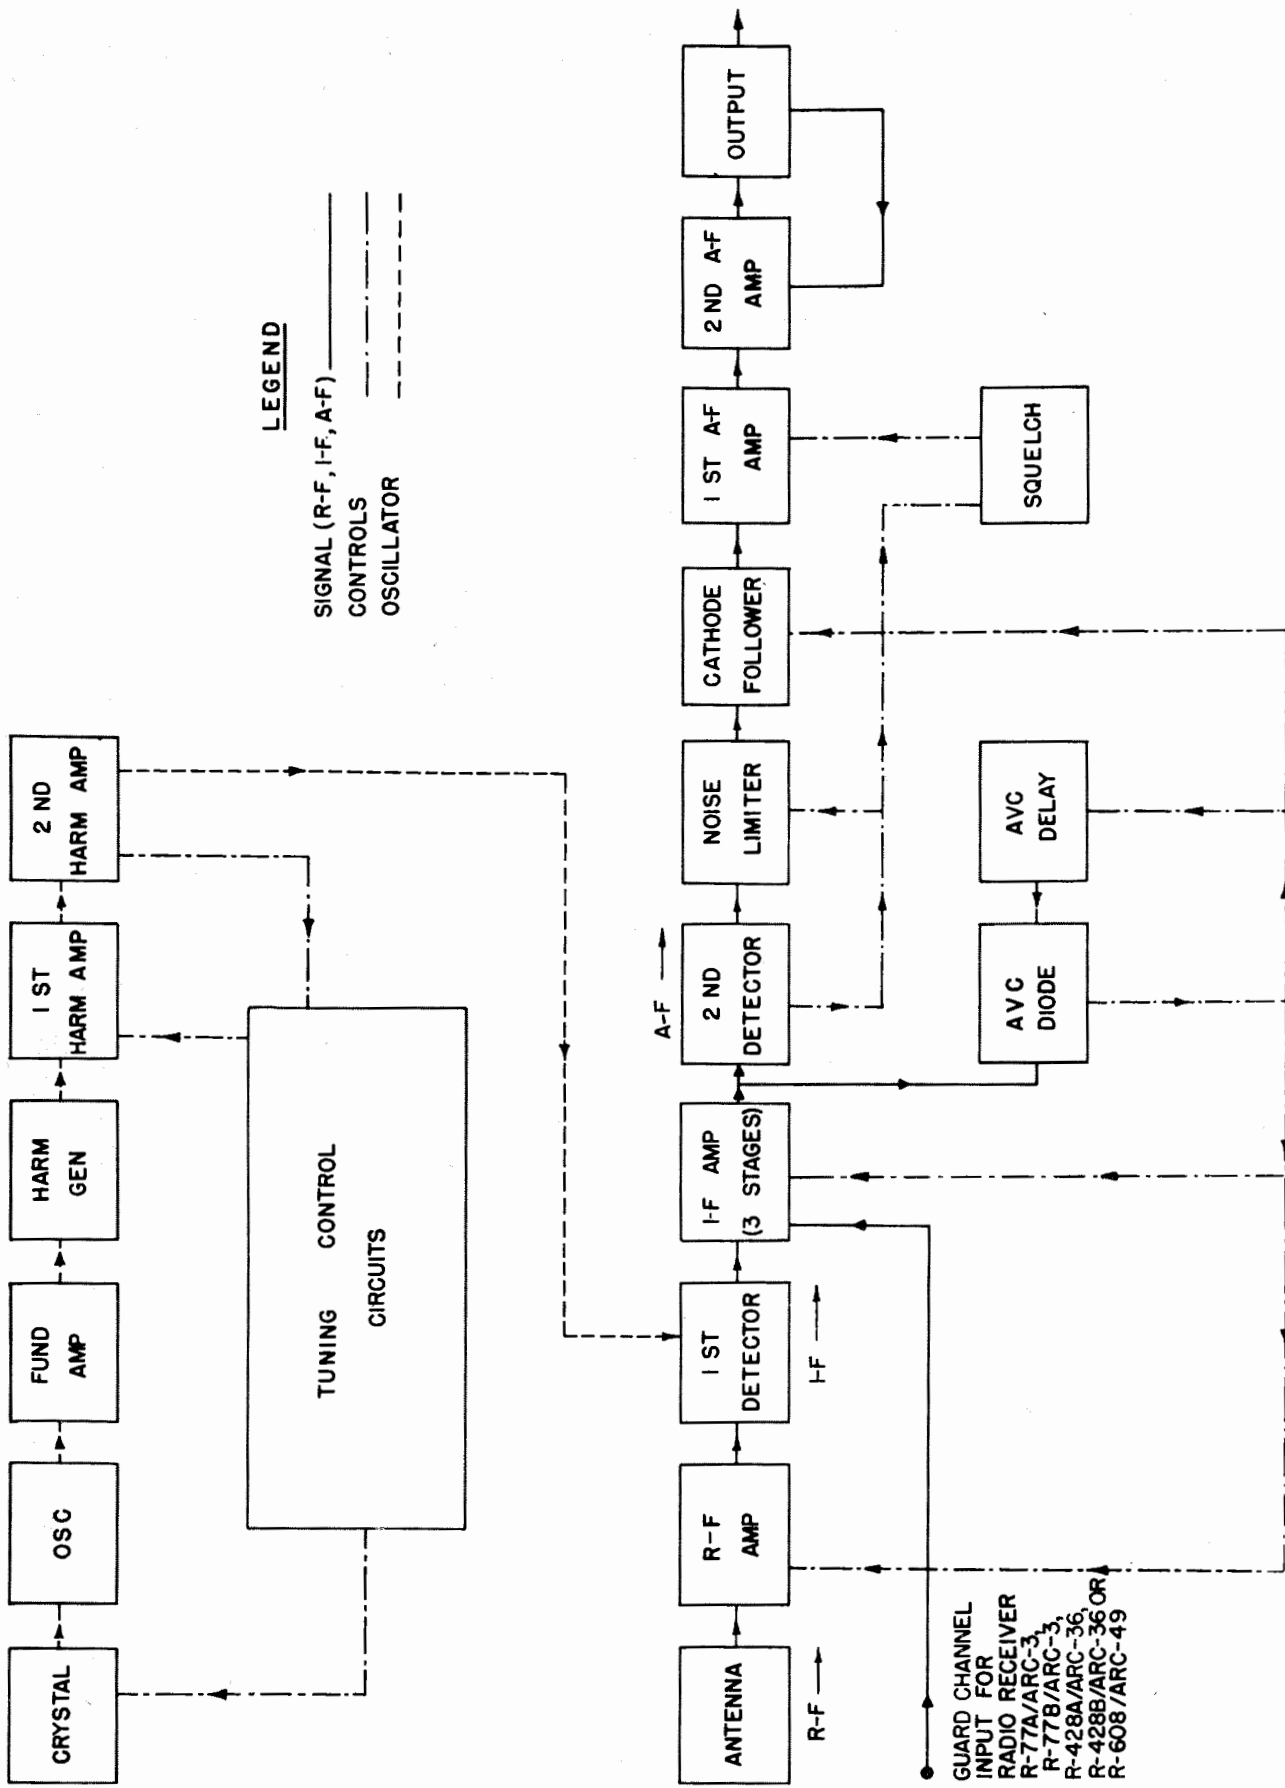

Figure 4-5. Radio Receiver—Block Diagram
(3) TUNING SYSTEM.—The tuning system is described in detail in paragraph 3b, this section.
b. RADIO RECEIVER R-77/ARC-3, R-77A/ARC-3, R-77B/ARC-3, R-428/ARC-36, R-428A/ARC-36, R-428B/ARC-36, or R-608/ARC-49.—The receiver is a 17-tube super-heterodyne that includes four dual-purpose tubes. It is crystal-controlled and employs a number of unusual features. (See figs. 4-5, 8-28, 8-29 and 8-31.)